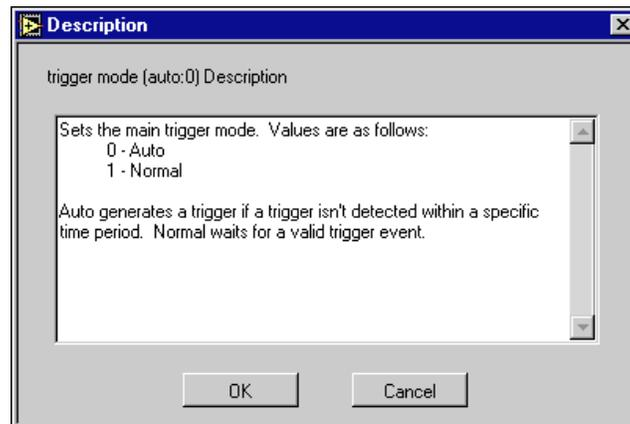

Figure 14. Front Panel Object help from the **Description...** Option.
- Control and Indicator help is the information most frequently viewed by the user. Provide a description of the individual controls and indicators. Front Panel Object help is obtained by selecting **Data Operations»Description. . .** from the object's pop-up menu (Figure 14). The help information contains the name and description of the parameter and its valid range and default value. Be sure to include information showing index numbers and corresponding settings for all ring and slide controls, settings corresponding to True/False positions on Boolean controls, and range information for numeric controls. You should also note any pertinent information concerning control interaction in the description boxes of each control affected by the interaction.